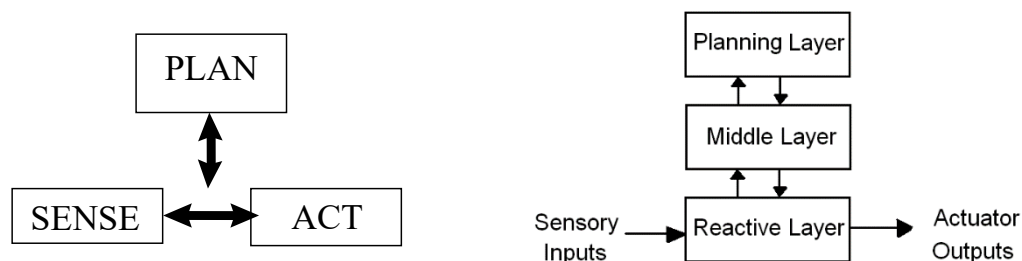

Figure 13: Homing Hybrid Control Architecture
- Next, you will design a completely different architecture for hybrid control. The hybrid control architecture that you will implement to home the robot includes a reactive layer (obstacle avoidance, wall following, move to goal (light following), path update), middle layer (arbitrator), and deliberative layer (current state, path plan, follow back to wall). This architecture is shown in Figure 13. Your code should be written in a modular fashion with functions such that it is evident where the planning, sensing and acting take place. Turn on a GREEN LED to indicate wall following.